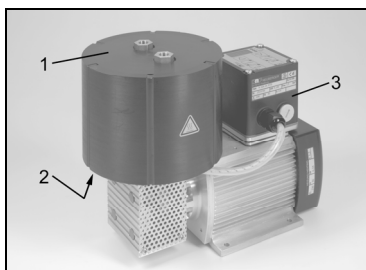

Fig. 2: Explanation of important elements on the basis of example N 012 ST.26 E
1. Take off the housing for the electronics or terminal cover (see fig. 2); to do this, release the four screws.